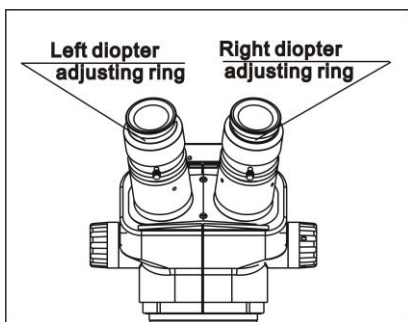

Fig 3
- (1) Turn the zoom knob to the Max. Magnification.
- (2) Adjust both diopter adjusting ring to zero.
- (3) Observe through right eyepiece, if the image is not clear, please turn focusing knob to make it clear.
- (4) Turn the zoom knob to the Mix. Magnification.
- (5) Observe through right eyepiece, if the image is not clear, please adjust right diopter adjusting ring to make it clear. (Fig 3)
- (6) Turn the zoom knob to the Max. magnification and observe through right eyepiece, if the image is still not clear, please repeat the step (3), (4), (5) till the image clear.
- (7) Turn the zoom knob to Mix. Magnification and observe through left, if the image is not clear, please adjust left diopter adjusting ring to make it clear. (Fig 3)